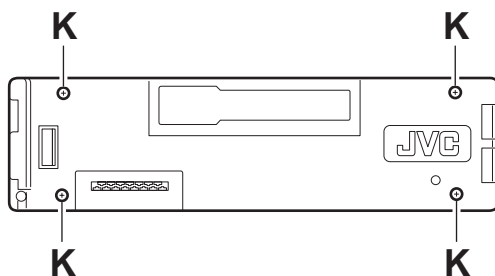

Fig.9
2.1.9 Removing the front board (See Figs.9 to 11)
- (1) Remove the four screws **L** attaching the rear cover on the back of the front panel assembly. (See fig.9)